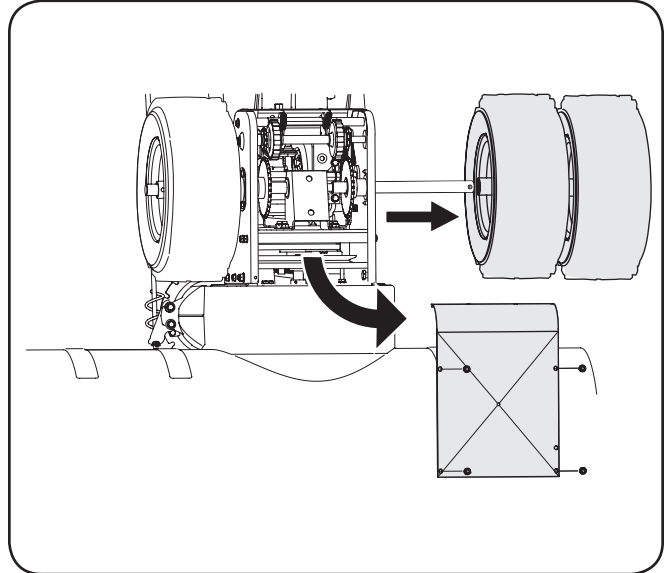

Figure 7-9
3. Remove screws from the frame cover underneath the snow thrower (refer to Figure 7-9). Remove the right wheels from the axle.